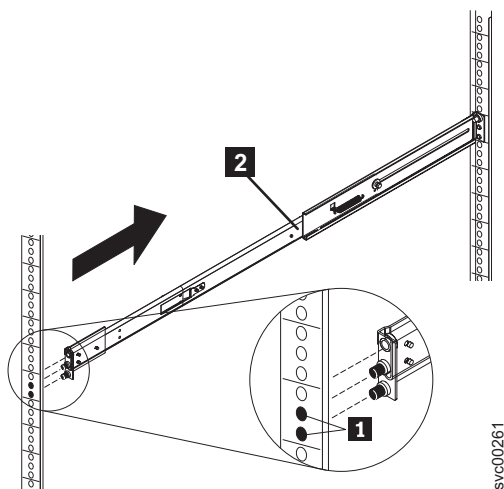

Figure 50. Removing the right slide rail from the front of the rack
3. Push the rail pins **1** out of the front rack mounting flange, as shown in Figure 50, to shorten the right slide rail and remove it from the front flange. Then pull the right slide rail forward to remove the slide rail from the rear rack mounting flange. Remove the left slide rail in the same way.